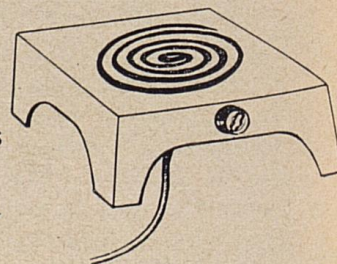

Fig. 24
2. *Cause:* Broken or burned out heating element. Fig. 24.